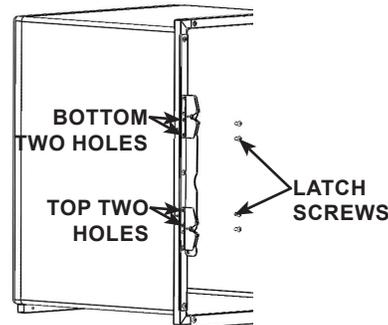

FIGURE 3.12 - Latch Assembly Installation
STEP 5: Install the latch assembly to the cage frame, tighten screws to secure the latch to the frame. See FIGURE 3.12